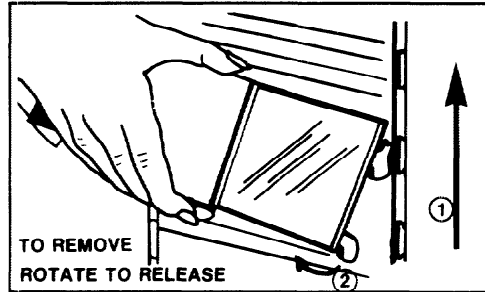

FIGURE 39
Door Shelves. Door shelves can be moved up or down to fit storage needs. See Figure 39. To remove, loosen shelf by tapping upwards gently underneath both ends. ① Lift shelf slightly. Rotate bottom out and up to release mounting hooks from door slots. To install, tilt shelf and insert upper hooks into any two door slots as shown. ② Rotate shelf bottom towards door and insert bottom hooks into door slots. Hold shelf against door and tap down gently on both ends until shelf is seated securely.